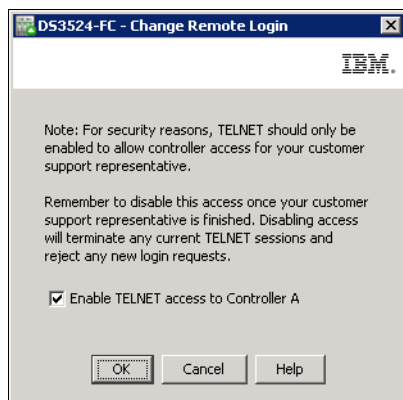

Figure 10-16 Remote login set
1. Select the controller in the Physical pane, right-click it, and select **Remote Login** in the menu. The window shown in Figure 10-16 appears.